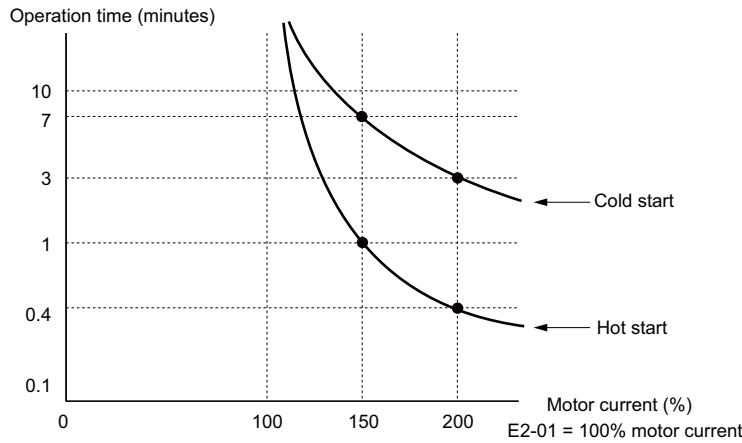

Figure 5.87 Motor Protection Operation Time
- **Figure 5.87** shows an example of the electrothermal protection operation time using a general-purpose motor operating at 50 Hz with L1-02 set to one minute.